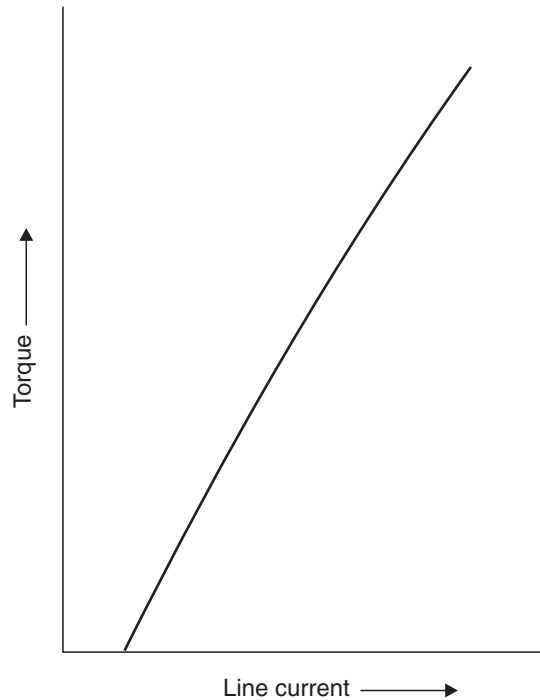

Fig. 65. Torque-current characteristic of a shunt motor.
- As the load is applied to the motor, and is increased, the torque rises *almost proportionally to the increase in current*. This is not quite true, because the flux has been assumed to be constant, whereas it decreases slightly owing to armature reaction. The effect of this is to cause the top of the curve connecting torque and line current to *bend over* as shown in Fig. 65.